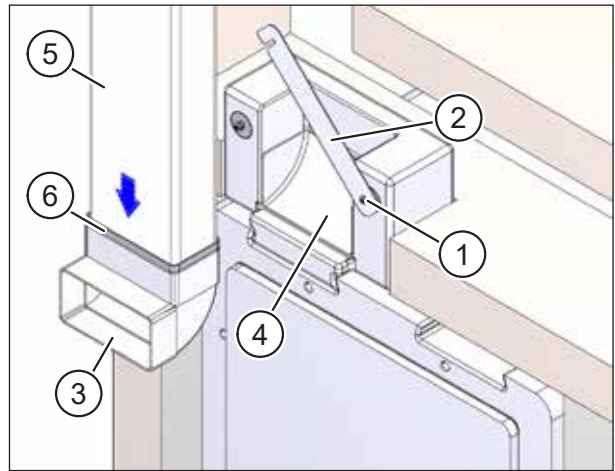

Fig. 28: Inserting flat ductwork into ductwork connection adapter
- ▶ Loosen the two cross-head screws (item 1 in Fig. 28) and lift up the bar catch (item 2 in Fig. 28).
- ▶ Remove the flat ductwork bend (item 3 in Fig. 28) from the ductwork connection adapter (item 4 in Fig. 28).
- ▶ Insert a flat duct M-WRG-FK-F (item 5 in Fig. 28), part no. 5590, or the fitting adapter M-WRG-FSA lang, part no. 5375-00, into the flat ductwork bend.
- ▶ Seal the join with a layer of sealing tape 30 mm wide (item 6 in Fig. 28).
- ▶ Push the flat ductwork bend (item 3 in Fig. 28) together with the attached flat ductwork element (item 5 in Fig. 28) back into the ductwork connection adapter (item 4 in Fig. 28).
- ▶ Push the bar catch (item 2 in Fig. 28) down and carefully tighten the cross-head screws (item 1 in Fig. 28).